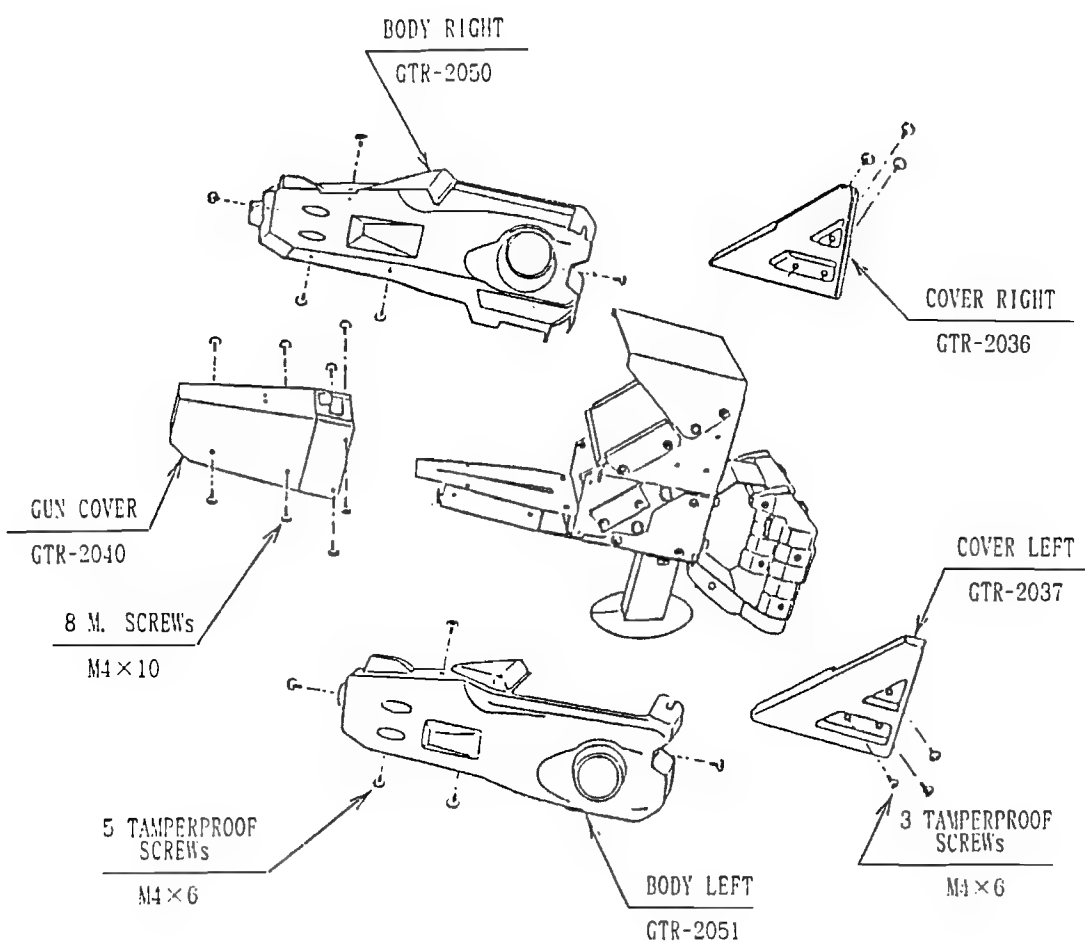

FIG. 1
(1) REMOVING THE COVER
- ① Take off the 16 TAMPERPROOF SCREWS (M4×6) for both sides; and remove the BODY RIGHT/LEFT and COVER RIGHT/LEFT.
- ② Take off the 4 machine screws and remove the gun cover to have the LED BOARD appear (see FIG. 1).